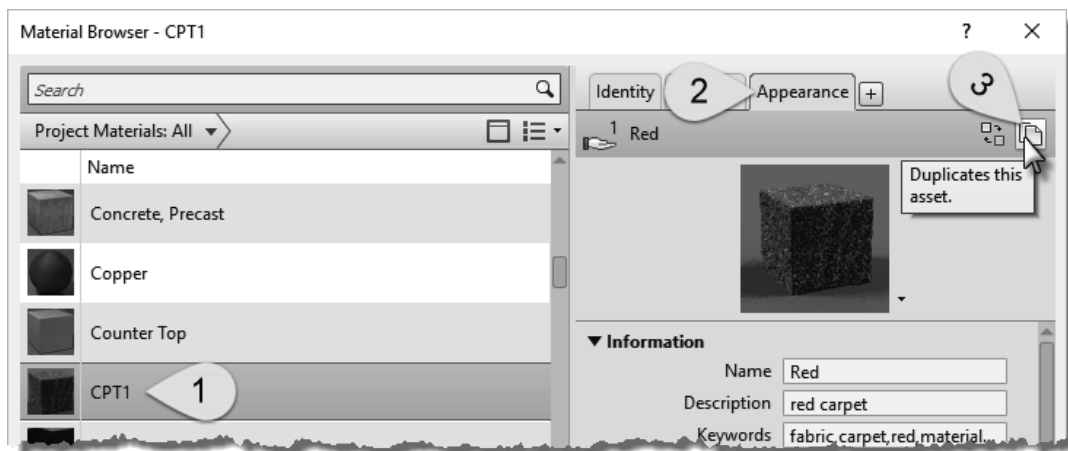

FIGURE 4-3.8 Duplicating an appearance asset
Notice, on the *Appearance* tab (Figure 4-3.8), that a PNG raster image is assigned to this material. You will download an image from the carpet manufacturer's website and then edit your *Material* to use this new image. Keep in mind that anyone who might work on the project needs access to the image file location. So, in an office environment, you would not want to save this file to your local hard drive.
18. Back in Revit, on the *Appearance* tab, click the **Duplicate this asset** icon (Figure. 4-3.8).